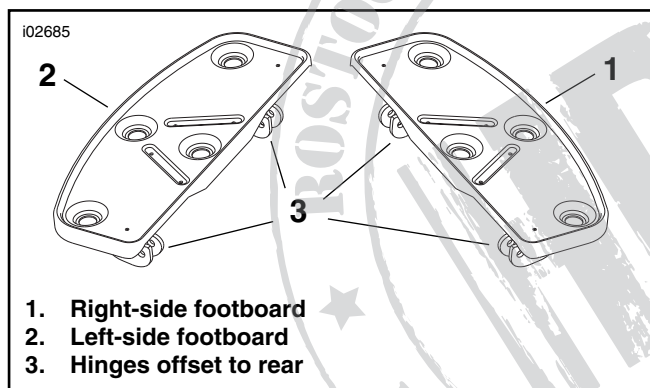

Figure 1. Ergonomic Operator Footboards
4. See Figure 1. Select the correct footboard from the kit. Place the footboard into position between the brackets, and install the pivot bolts from the outboard sides of the hinges.